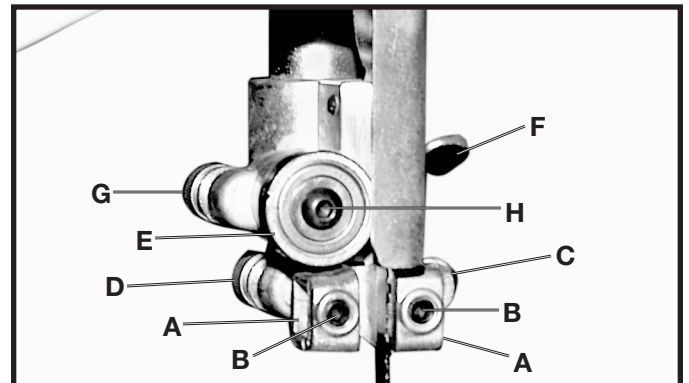

Fig. 55
3. Adjust the guides (A) Fig. 55 so that the front edge of the guides are just behind the “gullets” of the saw teeth. The complete guide block bracket can be moved in or out by loosening the thumb screw (C) and turning the knurled knob (D) Fig. 55. When the guides (A) are set properly, tighten thumb screw (C).
4. Two set screws (B) Fig. 55 hold the upper blade guides (A) in place. Loosen the set screws (B) to move the guides (A). Place them as close as possible to the side of the blade. (Be careful not to pinch the blade). Tighten the screws (B).
5. When the blade guide wears to a point that it cannot be adjusted close to the blade, loosen screw (B) Fig. 55 and reverse the blade guides (A) Fig. 55.
6. The upper blade support bearing (E) Fig. 55 prevents damage to the set in the saw teeth by keeping the blade from being pushed too far toward the back. The support bearing (E) should be set 1/64" behind the blade by loosening the thumb screw (F) and turning the knurled knob (G) to move the support bearing (E) in or out.
7. Adjust the blade support bearing (E) so that the back edge of the blade overlaps the outside diameter of the ball bearing by about 1/16". The bearing (E) is set on an eccentric. To change the position, remove the screw (H) and bearing (E) Fig. 55. Loosen the thumb screw (F), back out the knurled knob from the set screw. Remove the hex shaft from the hole, and rotate it to move the eccentric for the bearing.